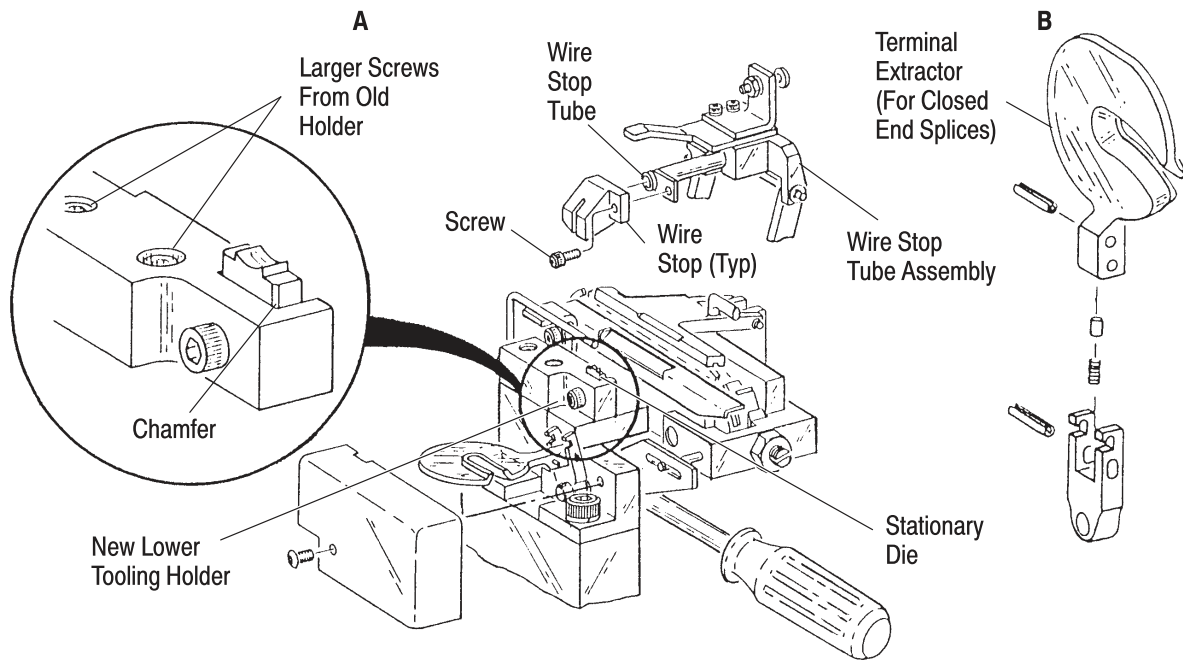

Figure 25
9. Install the new lower tooling holder using the two larger screws used for the old lower tooling holder. Do not tighten screws. See Figure 25,A.